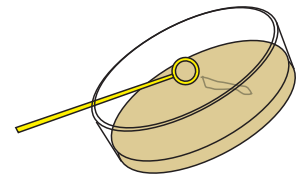

Figure 4
2. Remove a chunk of agar from the assigned *C. elegans* (Normal or Toxicity mutant) plate. Use a sterile loop to cut a small portion of the agar with worms on the surface and transfer the "chunk" to the center of the freshly seeded labeled NMG plate (Figure 4). (Check plate under microscope to confirm the presence of worms).